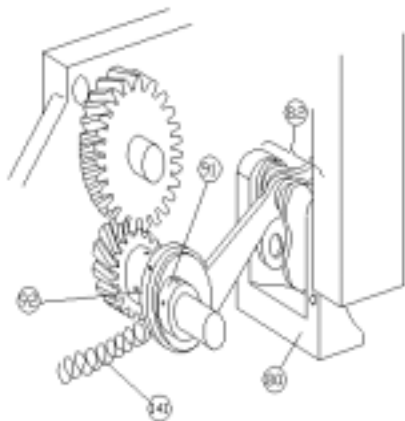

FIG.27
- (a) Remove the screw (100) from the ball and socket joint mounted on the correction drive levels (101).
- (b) Remove the screw (102) from the lower ball and socket joint and remove the rod with the joints (103).
- (c) Remove the upper stop register (99) for maximum length of stitch.
- (d) Release the spring (141) of the stitch length unit. FIG. 27.